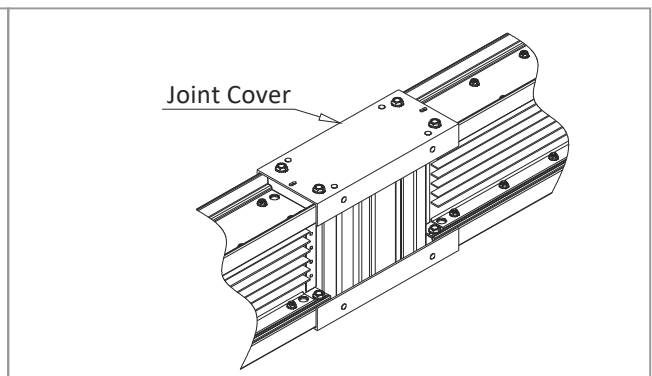

Figure 9.5
5. Installed back the top joint cover as shown in Figure 9.5